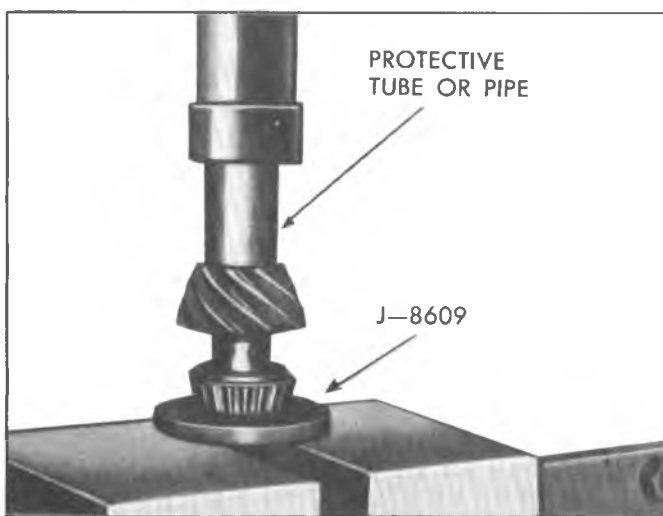

Fig. 21A—Drive Pinion Rear Bearing Installation
17. Lubricate the rear pinion bearing with liberal amounts of hypoid lubricant and install rear bearing onto pinion, using J-8609 as shown in figure 21A.